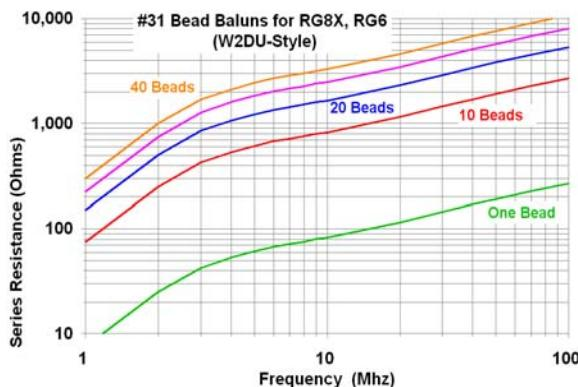

Fig 35 – Equivalent Series Resistance of #31 Bead Baluns (Computed from Fair-Rite Data)
Others have proposed variations of the W2DU balun without realizing the importance of resistance. Fig 35 is computed data for straight uncoiled "string of bead" choke baluns using 1.125" long #31 beads. As with all bead baluns, the impedance of a straight balun is approximately equal to the impedance of one bead multiplied by the number of beads in the string. The W0IYH balun uses 100 #43 beads, 0.562" long, 0.25" i.d. The resonance of these beads (and thus the balun) is around 150 MHz, so these baluns are strongly inductive on the HF bands! K3LR has measured them. His results suggest considerable stray capacitance, which in turn suggests either measurement error (stray capacitance is a common measurement error) or that his string of beads may be coiled (increasing stray C, lowering  $F_{RES}$ , and improving performance).
**When are "string of beads" chokes OK?** Many rules are made to be broken. A few years ago, K3LR asked me if it was OK to form a W0IYH string of beads using clamp-ons on his 10M antennas, where the feedlines had been carefully phased for stacking, and modifying their length to add multi-turn chokes wasn't practical. Fig 35 shows that the answer is yes – if enough beads are used to provide sufficient resistance that even if the feedline resonates with their inductance, the resistance still kills the common mode current. Fig 35 also shows that a relatively small "string of beads" can be quite effective on 6M and 2M. Fig 35 is computed for beads that are 0.562 inches long. Roughly half that number of 1.125-inch beads will provide equivalent performance.